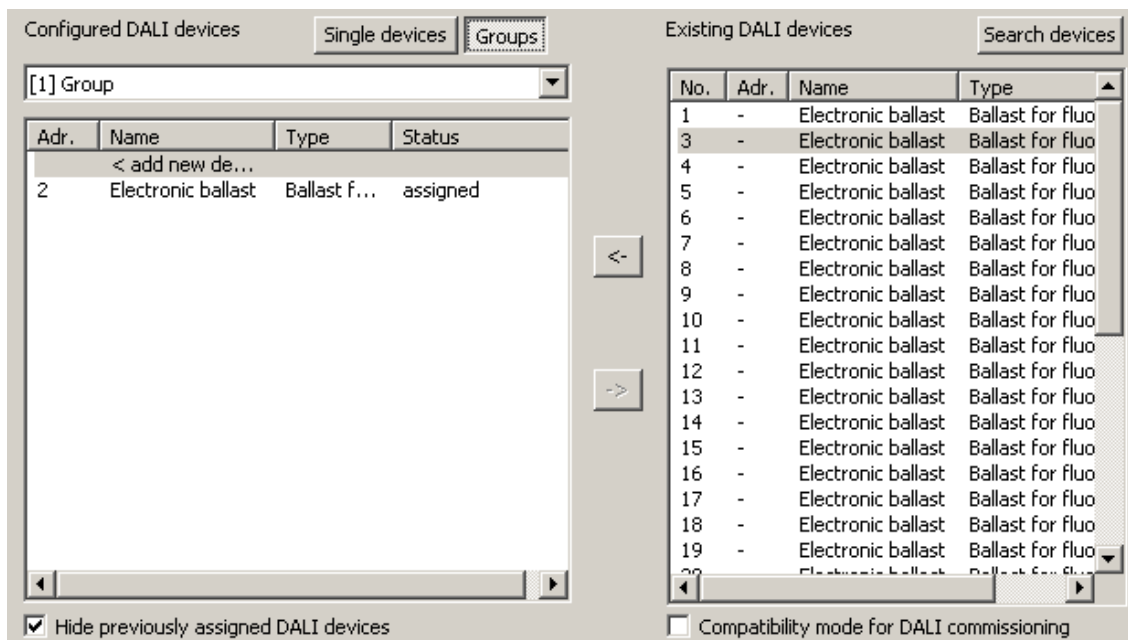

Figure 64: Operating device assigned to a group
- If new single devices are to be created (e.g. in empty groups), assign one or more found DALI operating devices using "<-" or "Drag and Drop" with the mouse. If an assignment is to take place to available free single devices, first highlight these in the left pane and then assign them using "<-" or, alternatively, using "Drag and Drop" with the mouse. In the right-hand section, the assigned operating devices disappear from the list box and appear in the left-hand section for the selected group (Figure 64). The right-hand pane contains only the remaining operating devices, which are not yet assigned to a group.